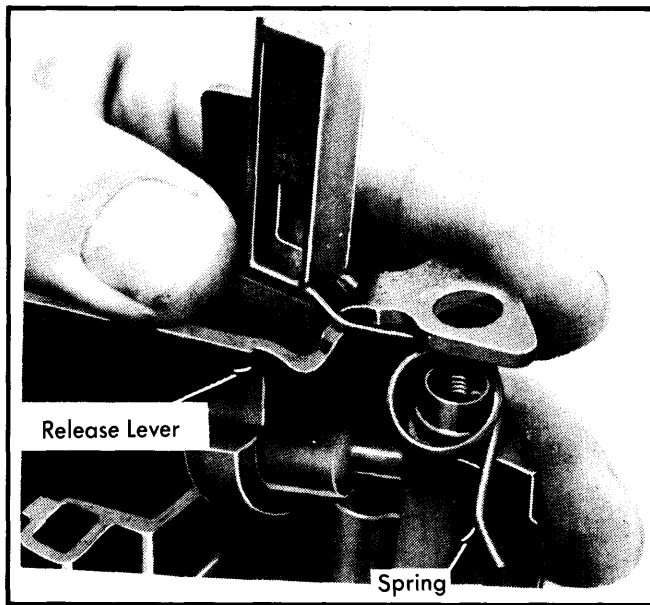

Fig. 6 Installing Release Lever and Spring on Manual Transmission Models
4) Place key release lever return spring over post in housing. Place release lever finger in lock rack slot. Position hole in lever over threaded hole in housing post. Make sure inner end of spring contacts release lever. See Fig. 6.